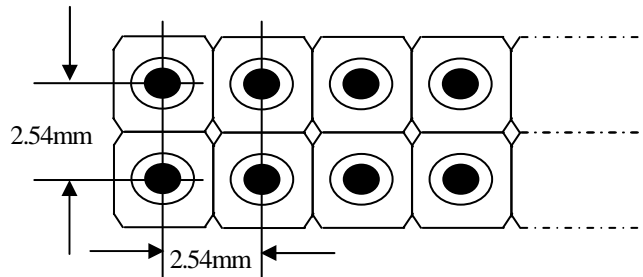
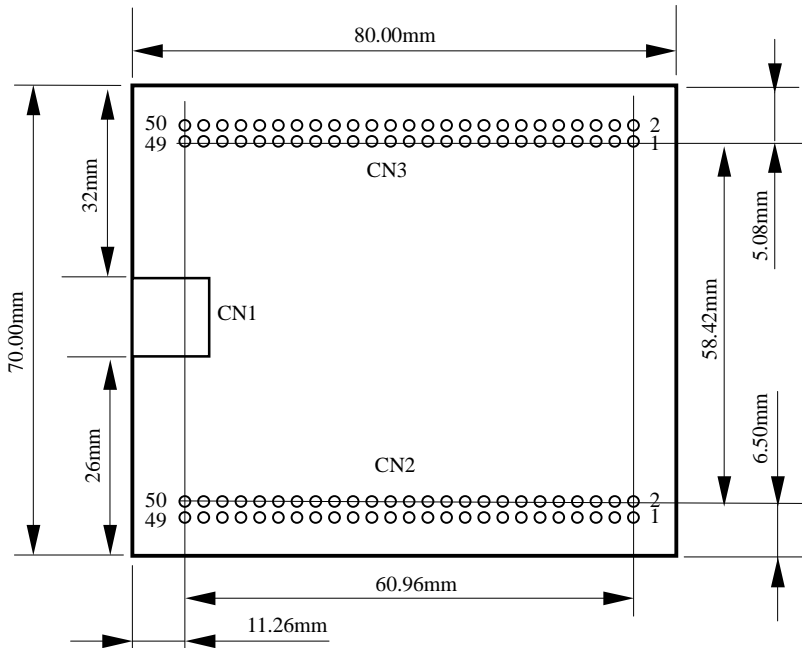

Figure 3. Pin Pitch of Connectors CN2 and CN3
Figure 4. Pin Direction of Connector CN2 and CN3 (Top View)
- (1) The receptacle of a target board should suit the size of this board (Refer to Figure 3 and Figure 4). Please make pin arrangement same as this board (Refer to Table 1 and Table 2). Please refer to the M3A-0038G01 part list and circuit diagram when selecting connector and pin arrangement.
- (2) As incorrect insertion preventive measures, please carry out stuffing the pins of target board that correspond to 21-pin and 22-pin of CN2 of this board. When HKP-50FD2 of Honda Communication Industry is used as receptacle, GM-25K of this company suit as stuffing.
- (3) The core power supply of M66592FP is 1.5V. A regulator makes 1.5V from 3.3V through 19-pin and 20-pin of CN3.
- (4) The interface power supply VIF is 1.8V (1.7-2.0V) or 3.3V (3.0-3.6V). Short JP4 to “EXIOVcc” and supply interface power by 25-pin and 26-pin of CN2. Please short JP4 to “3.3V”, when VIF is 3.3V same as core power supply. In this case, power supply to “EXIOVcc” is unnecessary.
- (5) Please use SD0-SD7 of CN2 when using split bus for DMA. SD0-SD7 can be used also as a general-purpose port.
- (6) Processing for no connect signal: Please refer to M66592 datasheet for detail.